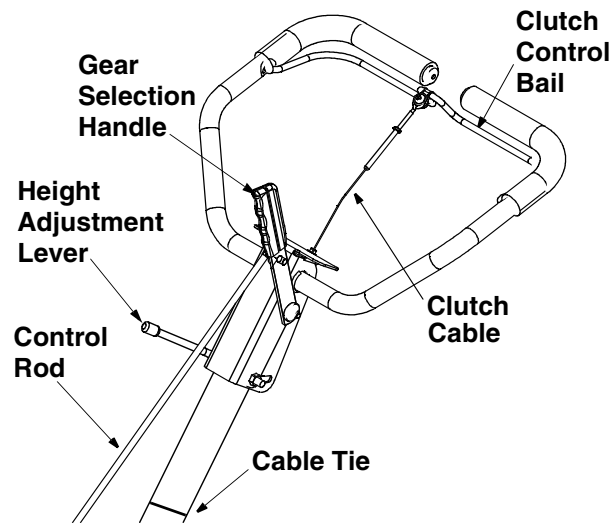

Figure 7
Secure clutch cable to handle using cable tie. Refer to Figure 7. Cut off excess end of cable tie.
- Insert the longer end of the control rod through the hole in the gear selector handle and secure with hairpin clip. See Figure 7.
The gear selection handle is located in the center of the handle on the tiller. It is used to select NEUTRAL, REVERSE, or one of the FORWARD modes (see below). Pull or push the handle so that the indicator on top of shift cover points to the operating mode desired. See Figure 7.
The clutch control bail is located below the handle. See Figure 7. Lifting the clutch control bail against the handle engages the wheel and tine drive mechanisms.